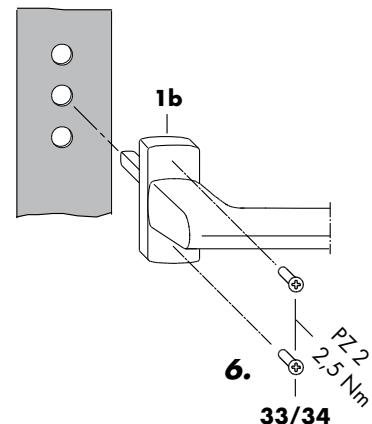

Figure 4
6. Screw on the window handle (pos. **1b**) with countersunk screws M5 x 35 (pos. **33/34**) (PZ 2, torque $2.5 \pm 0.25 \text{ Nm}$) (figure 4).